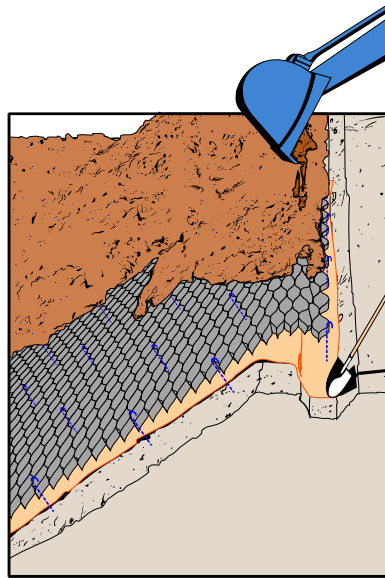
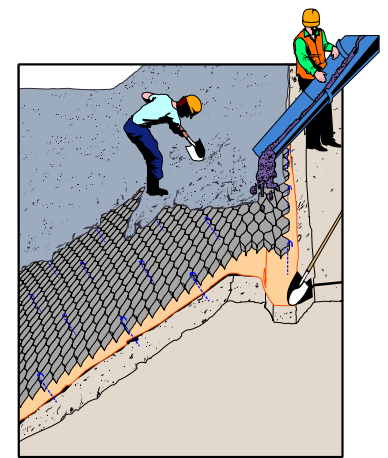

Figure 19 Excavator
Figure 23 Chute
- A range of equipment types can be used as illustrated in Figure 19 – Figure 23.